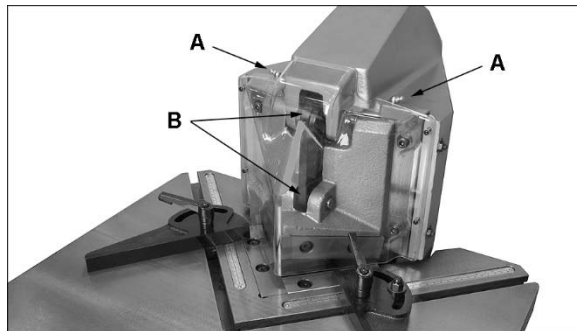

Figure 9-1
1. Periodically insert oil into two fittings (A, Figure 9-1)
2. Periodically apply oil to pivot areas of connection plate (B).